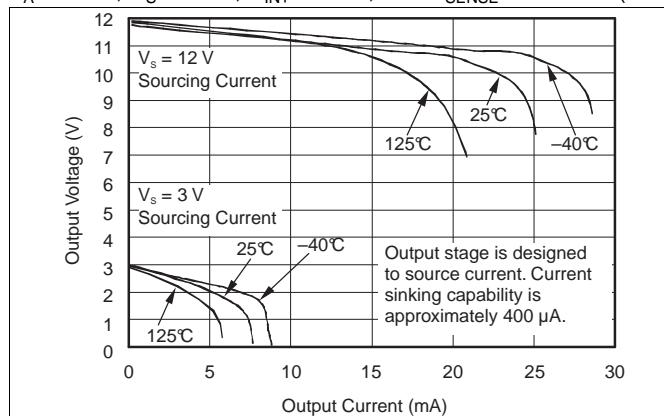

Figure 7. Positive Output Voltage Swing vs Output Current
(1) Total output error includes effects of gain error and V_{os} .
(2) For details on this region of operation, see Accuracy Variations as a Result Of \$V_{SENSE}\$ and Common Mode Voltage.
(3) See Figure 7.
(4) Specified by design